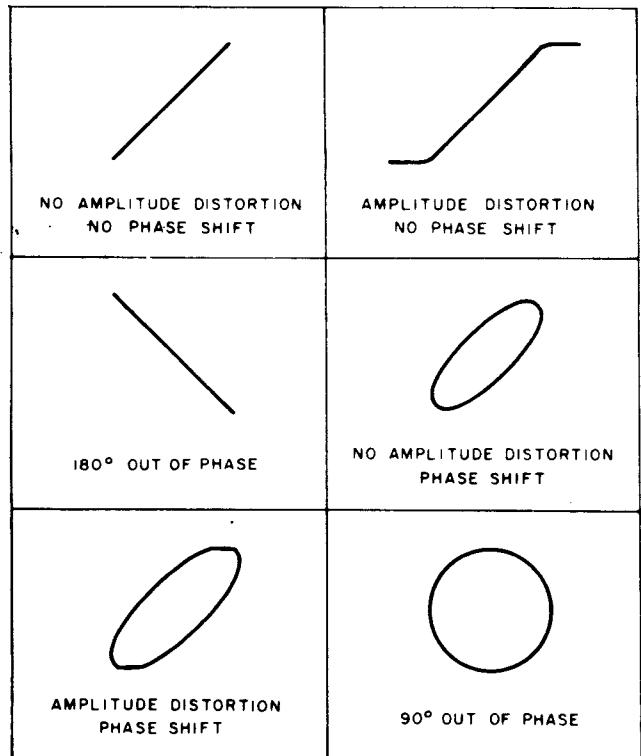

Fig. 35. Typical phase measurement oscilloscope displays.
- Some typical results are shown in Fig. 35. If the two signals are in phase, the oscilloscope trace is a straight diagonal line. If the vertical and horizontal gain are properly adjusted, this line is at a 45° angle.